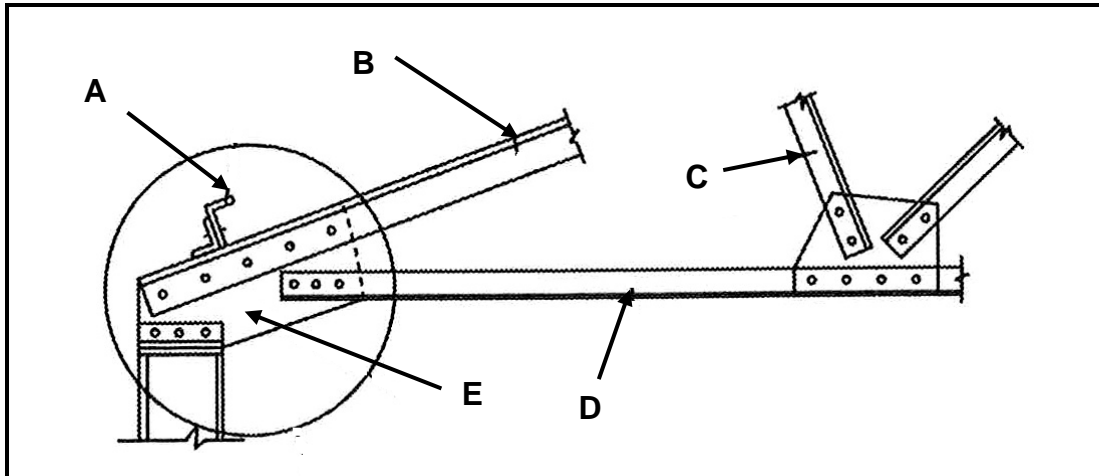

FIGURE 5.1
5.1 FIGURE 5.1 below indicates a roof truss. Label parts A–E.